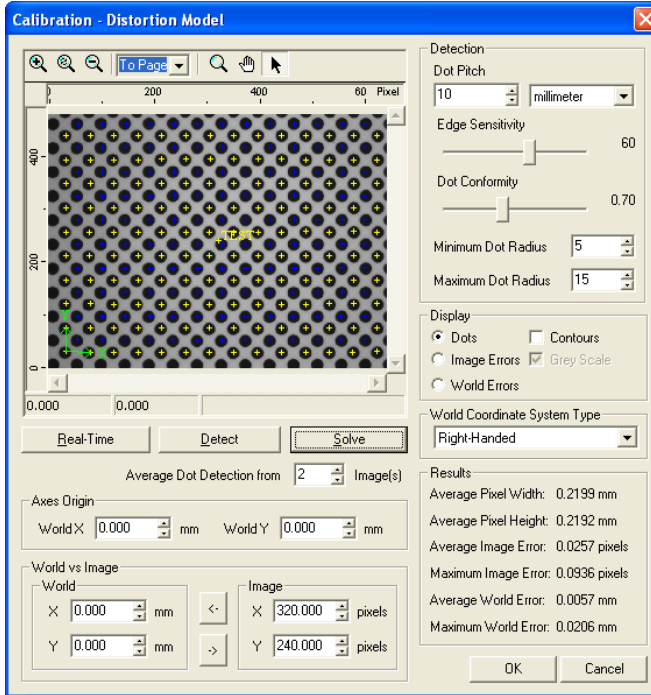

Figure 114 Distortion Model Calibration Dialog
5. Go to the **Calibration** sub-panel. Select **Distortion Model**. Click **Show Calibration Dialog**. The **Distortion Model** dialog is displayed (see Figure 114).